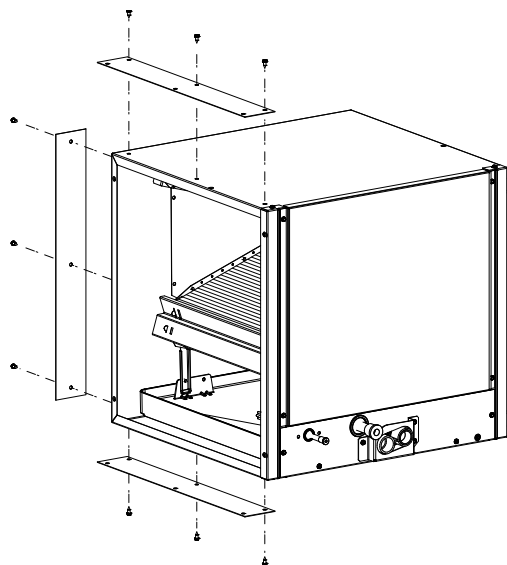

Fig. 5 – Mount Attachment Plates
2. Use self-tapping screws to mount attachment plates to coil casing (Fig. 5).